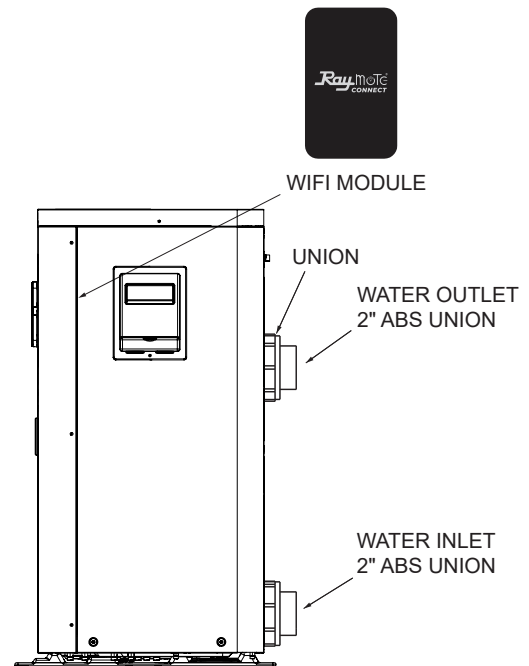

Figure 71. Component Locations, Right Side View
Updated Figure 2 and 3 clearance callouts; Updated Table D amperage callouts; Updated Table I technical callouts; Updated Figure 71 to replace "PVC" with "ABS". Updated IPL to replace "PVC" with "ABS" for items 22 and 23.